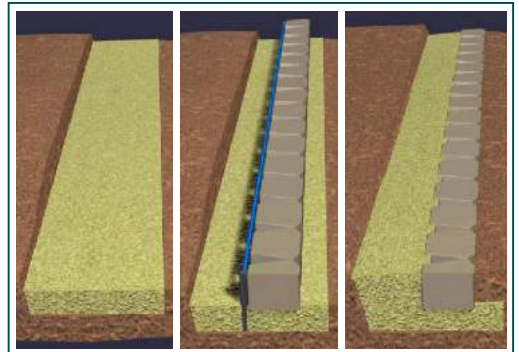

Figure 2a, 2b & 2c
- 2) Place a good quality granular fill (eg. DMRB Type 1) in the trench in 150mm layers and compact to achieve suitable density, typically 95% max. dry density (Figure 2a). Repeat the process until the required base thickness is achieved. Check to ensure that the foundation surface is level in readiness to receive the base course of blocks.